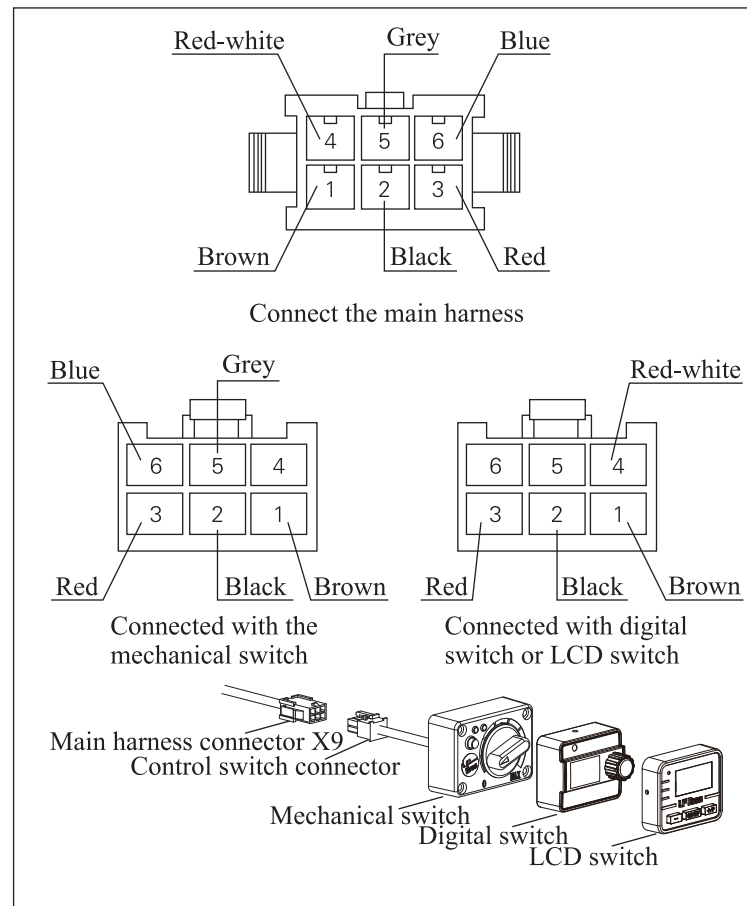

Fig. 23
4.5.4 - Install the control switch in a position for convenient operation. The arrangement shall make an easy observation on the indicator on the case to identify the working conditions (operation/stop) of the heater easily. The terminals of the leads of the control switch should be plugged in the socket according to the order as shown in Fig. 23, and then connected with the self-locking mechanism to the connector X9 on the main wire harness.